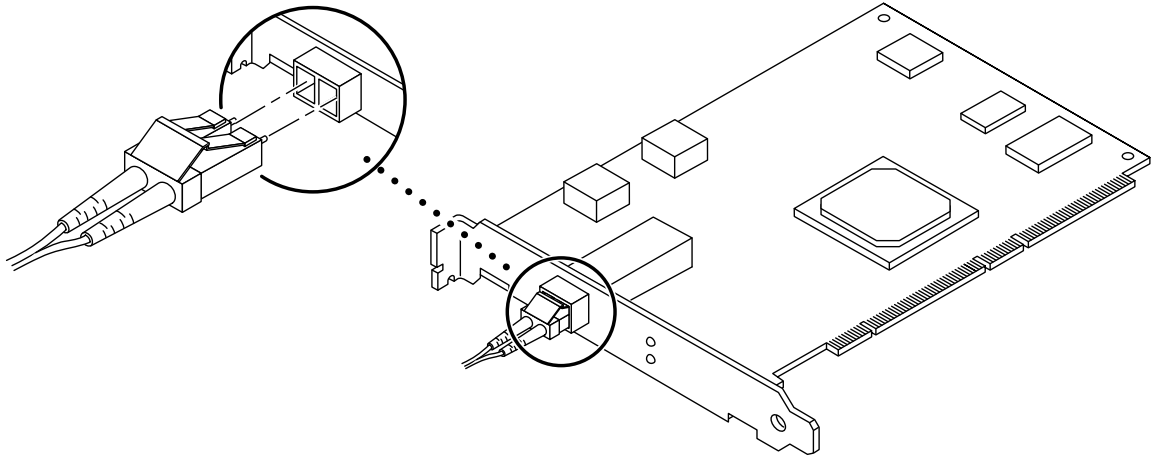

FIGURE 1-4 Connecting a Fiber Optic Cable to an OT Connector
5. **Push the fiber optic cable connector into the OT connector until you hear a click (FIGURE 1-4).**
**Caution** – Fiber optic cables have keyed connectors; they can only be inserted into OT connectors as shown in FIGURE 1-4.